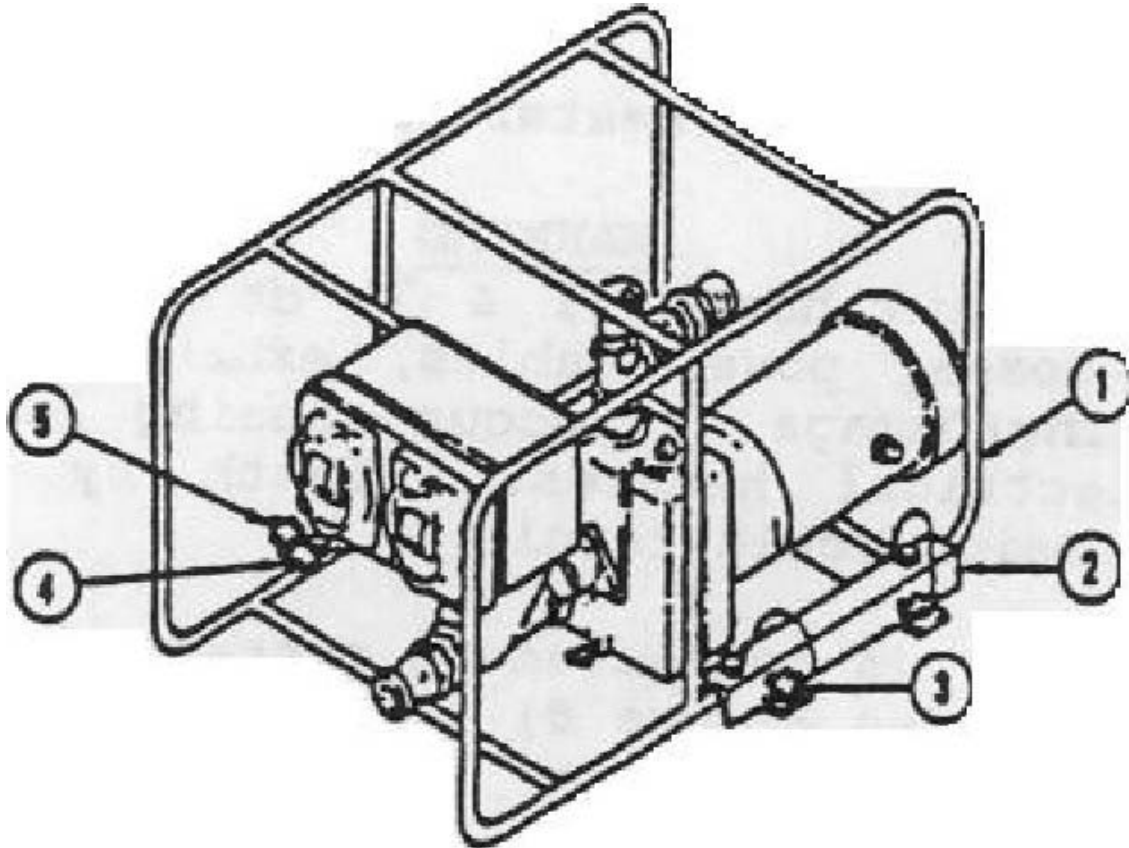

Figure 3-18
- e. Install and tighten bolts (2-3 and 4-5) removed in step b. (See Figure 3-18)